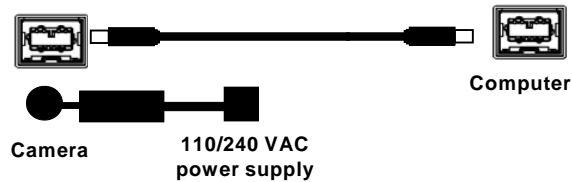

Figure 5 — FireWire and External Power Supply Connection
In most cases, the FireWire cable provides the necessary power required by the Rolera EM-C². However, if your camera is cooled you will need to provide additional power to the camera as shown in Figure 5.
- In order to obtain the cooling specification of the camera, the supplied external power adapter needs to be connected to the camera as shown in Figure 5 below.